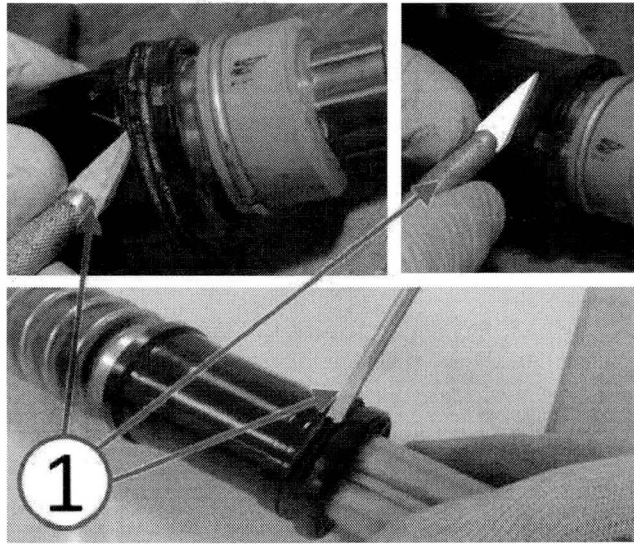

Fig. 4 Wiper Seal Removal
4. Using an appropriate tool, cut and/or scrape the rubber wiper seal from the plastic inner bearing sleeve (Fig. 4).